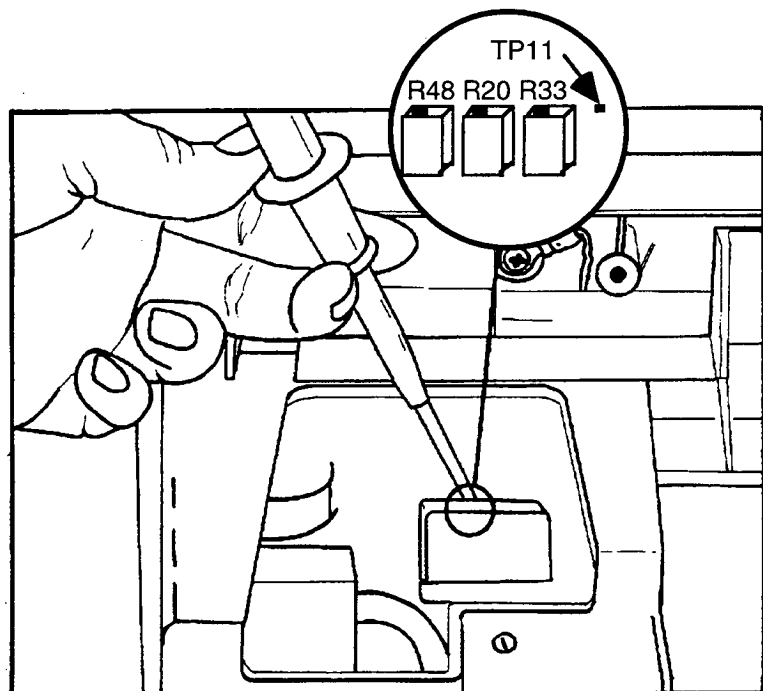

Figure 3-10. Precision Reference Voltage
1. Using a long voltmeter probe, connect the positive lead to TP11 on the system processor PWA as shown in Figure 3-10.
5. The voltmeter should read  $+4.50 \pm 0.01\text{Vdc}$ . Adjust R48 with a tuning wand as shown in Figure 3-10 to obtain this reading.